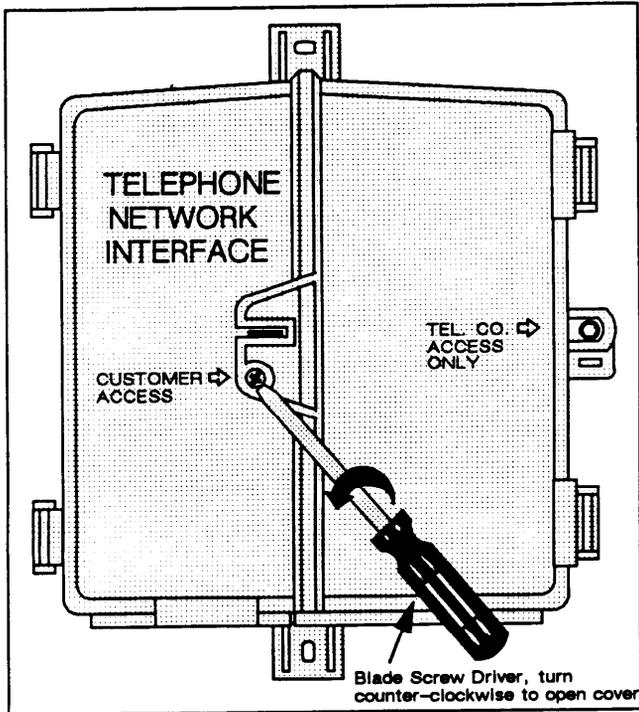

Figure 5 - Opening Customer Access Cover
- (2) Open the CUSTOMER ACCESS cover (See Figure 5 illustration).
- (3) Disconnect the modular plugs from the LINE 1, LINE 2 and LINE 3 modular jacks.
- (4) Carefully follow the CUSTOMER WIRING INSTRUCTIONS as shown in the illustration.